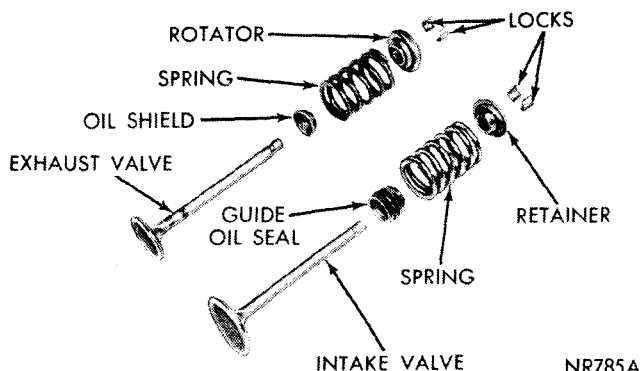

Fig. 15—Valve Assemblies
(1) Lubricate valve stems and insert them in cylinder head.
(2) Install new cup seals on all valve stems, (long seal on intake valve and short seal on exhaust valve) and other valve guides (Figs. 15 and 16). Install valve springs and retainers.
(3) Compress valve springs with Tool C-3422A, install locks and release tool. **If valves and/or seats are reground, measure the installed height of springs. Make sure measurement is taken from the bottom of**